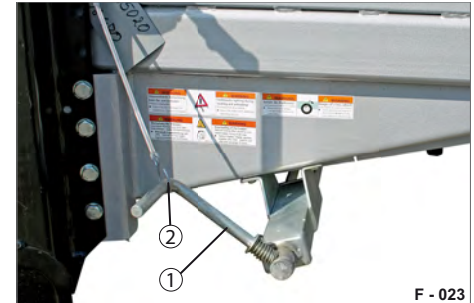

Fig. 48 Screw parking brake secured
- ▶ Fit the hook of the securing cable (Fig. 48/2) over the crank (Fig. 48/1).